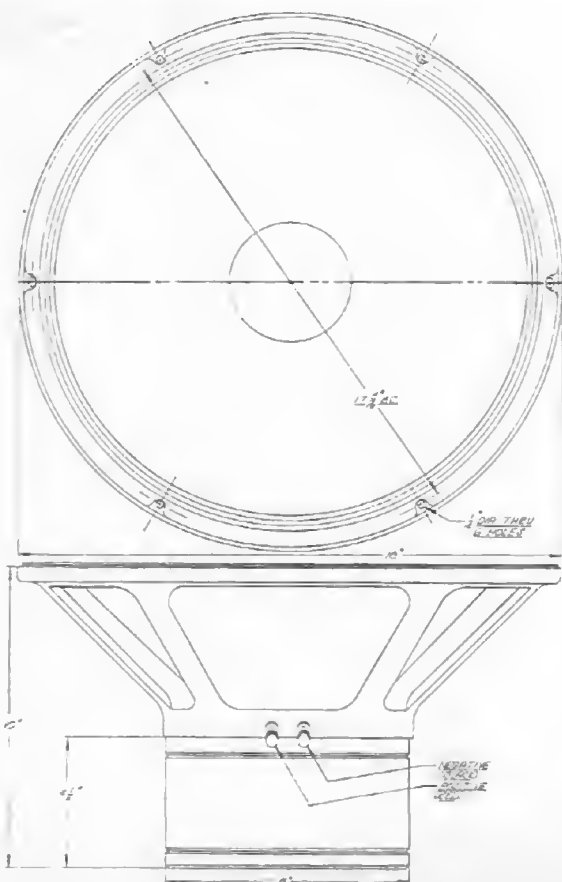

Fig. 1 — Dimensions
**MOUNTING THE SPEAKER** — Cut a circular hole  $16\frac{3}{8}$  inches in diameter. Four  $\frac{1}{4}$ -inch mounting holes are provided on the outer periphery of the speaker frame. Use four #12 x  $1\frac{1}{2}$  inch long wood screws, or preferably drill four  $\frac{1}{4}$ -inch holes on a  $17\frac{1}{4}$ -inch circle spaced 90 degrees apart (See Fig. 1 for the hole arrangement), and employ four  $\frac{3}{16}$ -inch carriage bolts 2 inches long with hex nuts and washers. Secure the speaker to the front baffle and tighten the retaining screws just enough to compress the speaker gasket. Do not tighten too much or the frame may be sprung out of line, thus damaging the speaker unit.